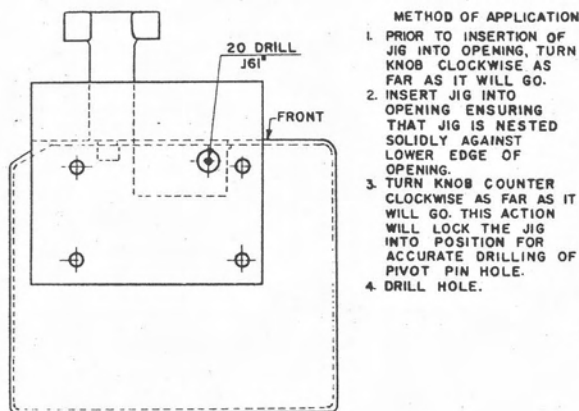

Figure 22. Drilling position.
- (q) Place drill jig (P-70294) on lower housing in coin refund opening and clamp tight (figure 22).